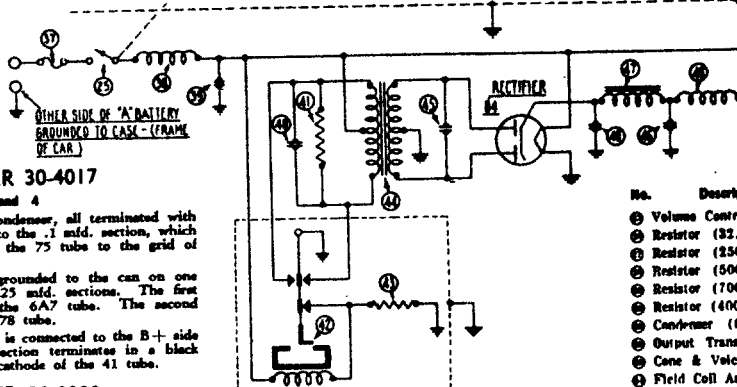

FIGURE 3
④ on Figures 3 and 4
● on Figures 3 and 4